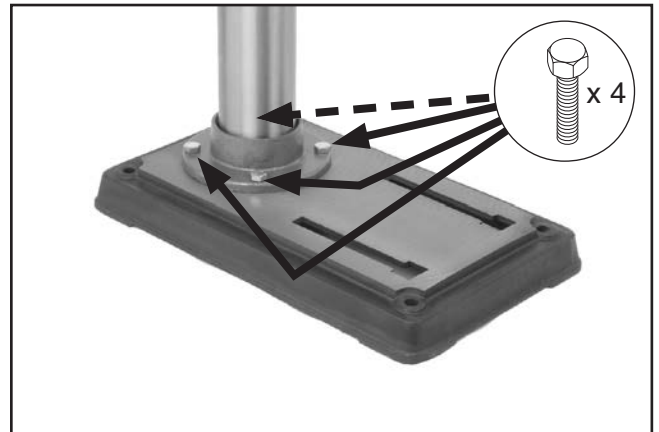

Figure 13. Column secured to base.
2. Secure the column to the base with the four hex bolts, as shown in **Figure 13**.